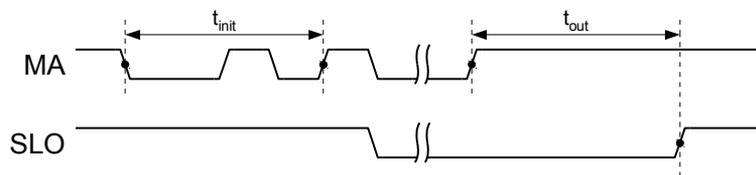

Figure 2: Adaptive Slave Timeout
| 904   | t out () | Adaptive Slave Timeout at SLO                                | NTOA = 0refer to timing Figure 2t init measured as first 1.5 · T(MA) each frame.   | 2 / fsys | t init + 4 / fsys | 280 / fsys     |                |